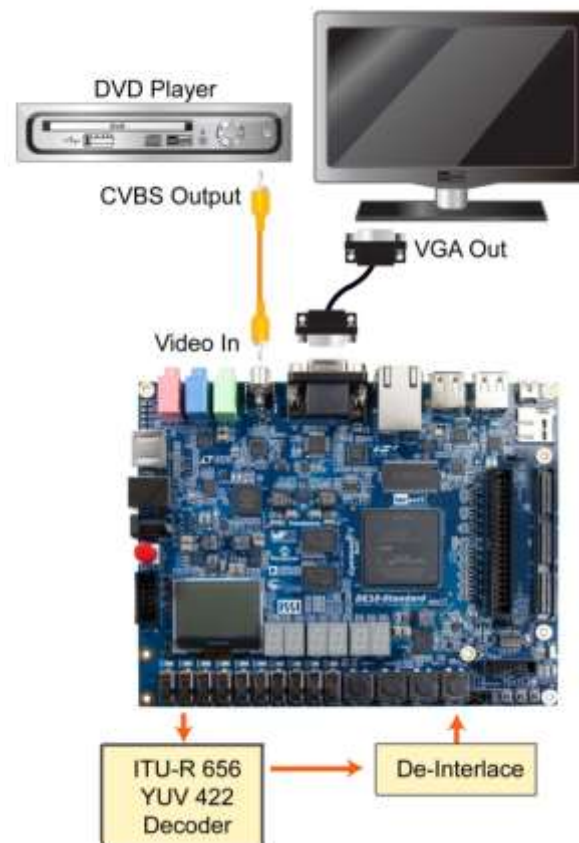

Figure 5-10 Setup for the TV box demonstration
- Connect a DVD player's composite video output (yellow plug) to the Video-in RCA jack (J6) on the DE10_Standard board, as shown in **Figure 5-10**. The DVD player has to be configured to provide: